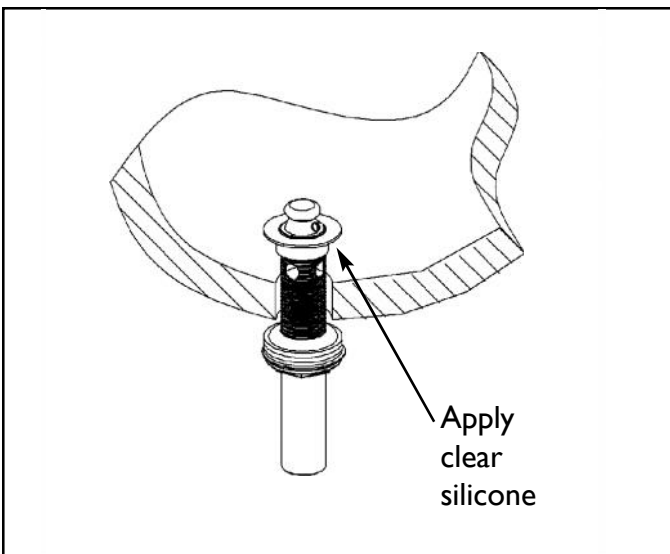

Figure 4
- 4. Reattach top flange stopper assembly to tailpiece. Apply clear silicone sealant to underside of flange. Press flange down flush to sink. See Fig. 4**